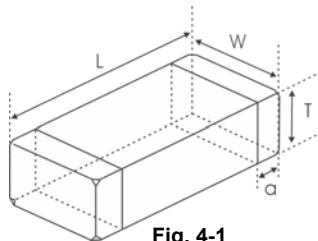

Fig. 4-1
- 1) Dimensions: See **Fig.4-1** and **Table 4-1**.